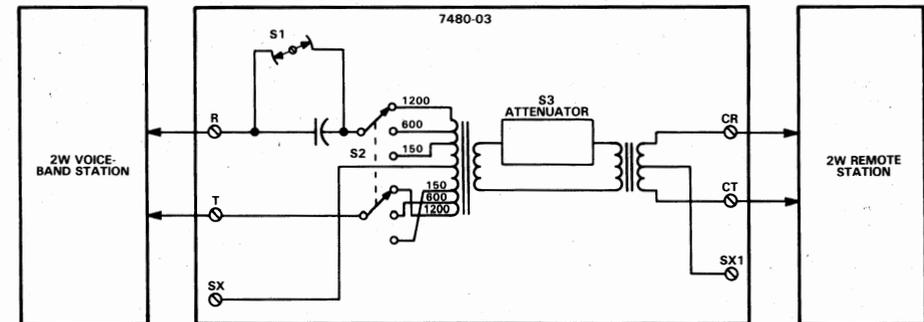

Figure 2. 7480-03 Typical Application
- 2.01 The 7480-03 is used to interface between 2-wire voiceband data station equipment and a 2-wire private line service or polled network service such as the Transaction Network or the DATAPHONE® Select-A-Station. A typical application is shown in Figure 2. The 7480-03 can also be used to interface a carrier 2-wire extended loop but the dc current blocking option (S1) cannot be used.